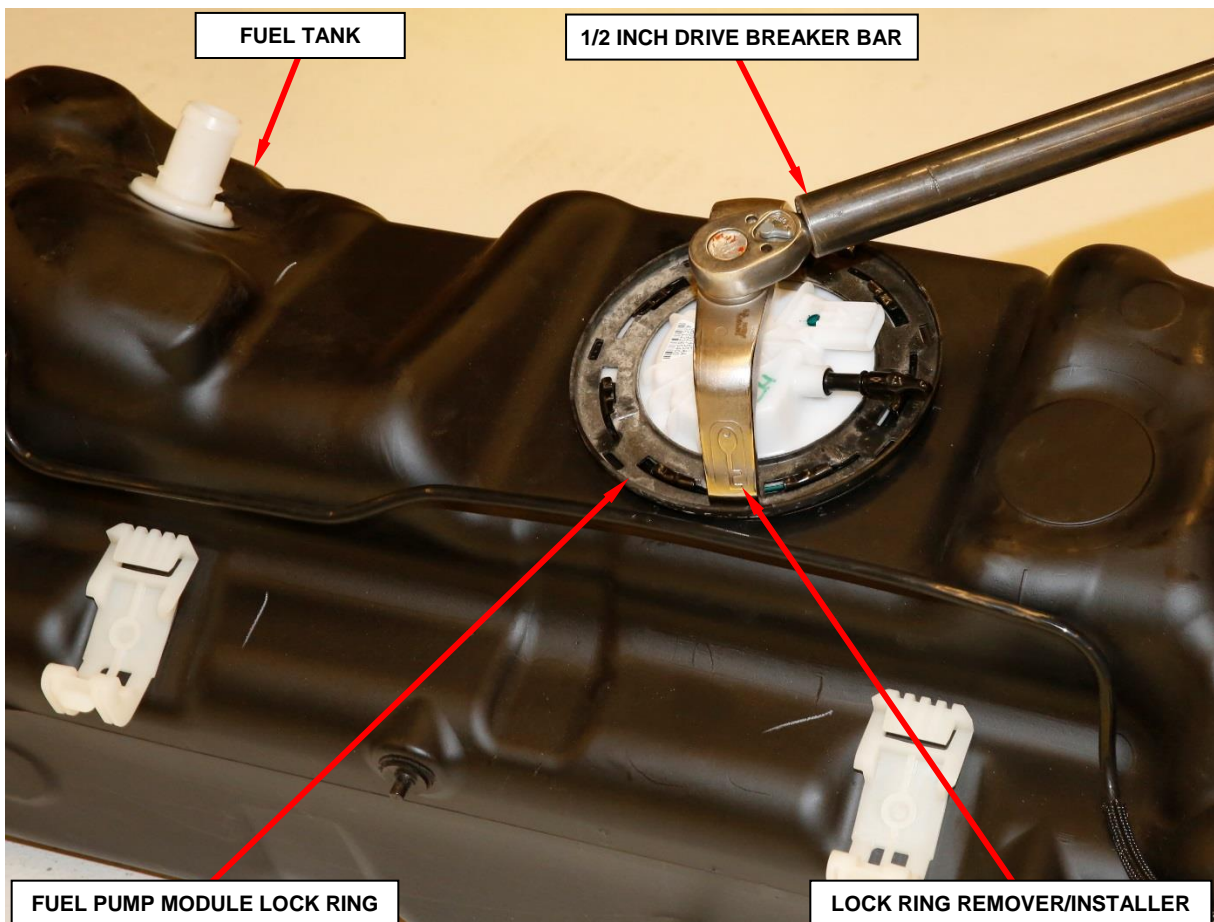

Figure 19 – Lock Ring Remover/Installer
46. Position the lock ring remover/installer 9340 into the notches on the outside edge of the lock ring (Figure 19).
47. Install a 1/2 inch drive breaker bar into the lock ring remover/installer 9340 (Figure 19).
48. Rotate the breaker bar counterclockwise to remove the lock ring. Save the lock ring for reuse (Figure 19).
55. Position the lock ring remover/installer 9340 tool into the notches on the outside edge of the lock ring (Figure 19).
56. Install a 1/2 inch drive breaker bar into the lock ring remover/installer 9340 tool (Figure 19).